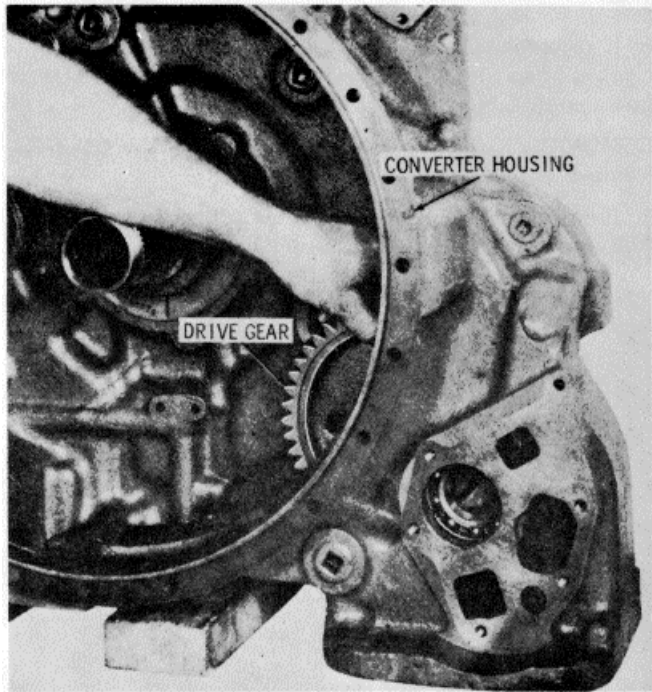

Figure 15-58. Removing Oil Pump Drive Gear
4. Remove the oil pump drive gear from the converter housing (Figure 15-58).